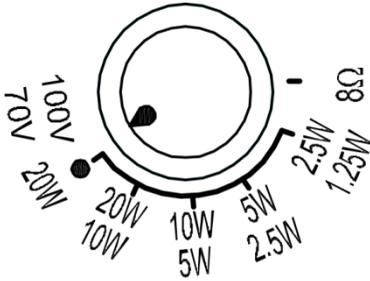

Figure 3: Adjust Tap Selector
4. Adjust appropriate tap setting (see Figure 3).